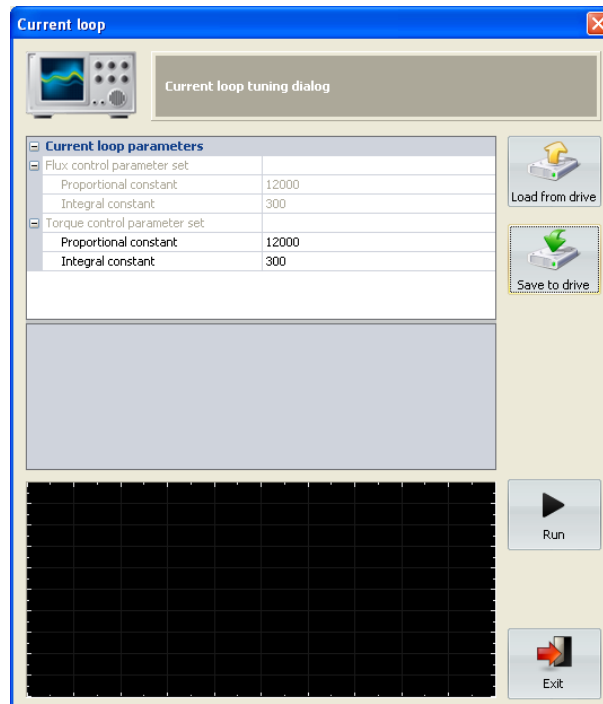

Figure 8: Current loop
- Current loop tuning:** When pressing at the “I loop” button of the main window a dialog box with the parameters of the current loop will appear (see Figure 8). This dialog has a scope that helps to tune the parameters properly. Once the parameters are modified they could be saved into the drive (using save to drive button) and run an execution. The system will apply a step of current and the result will be presented in the scope.